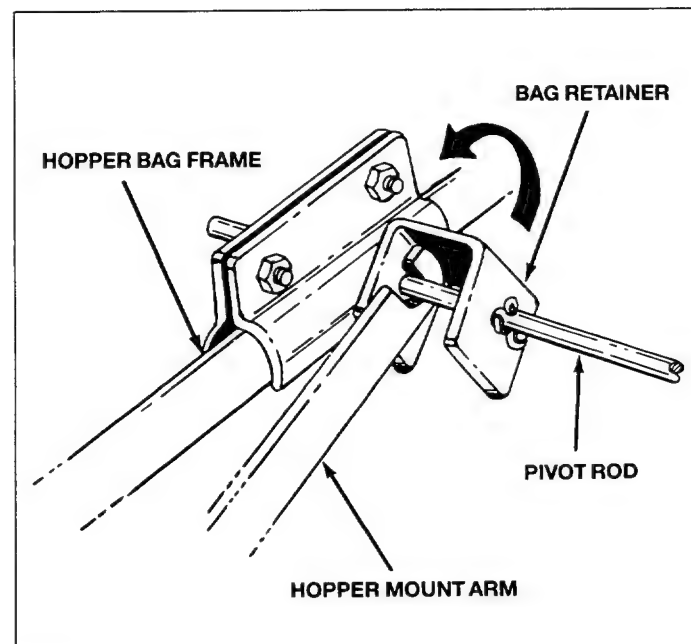

Fig. 28
19. To remove the hopper bag frame from the sweeper, simply lift up on the bag retainers and lift off hopper bag. See figure 28.